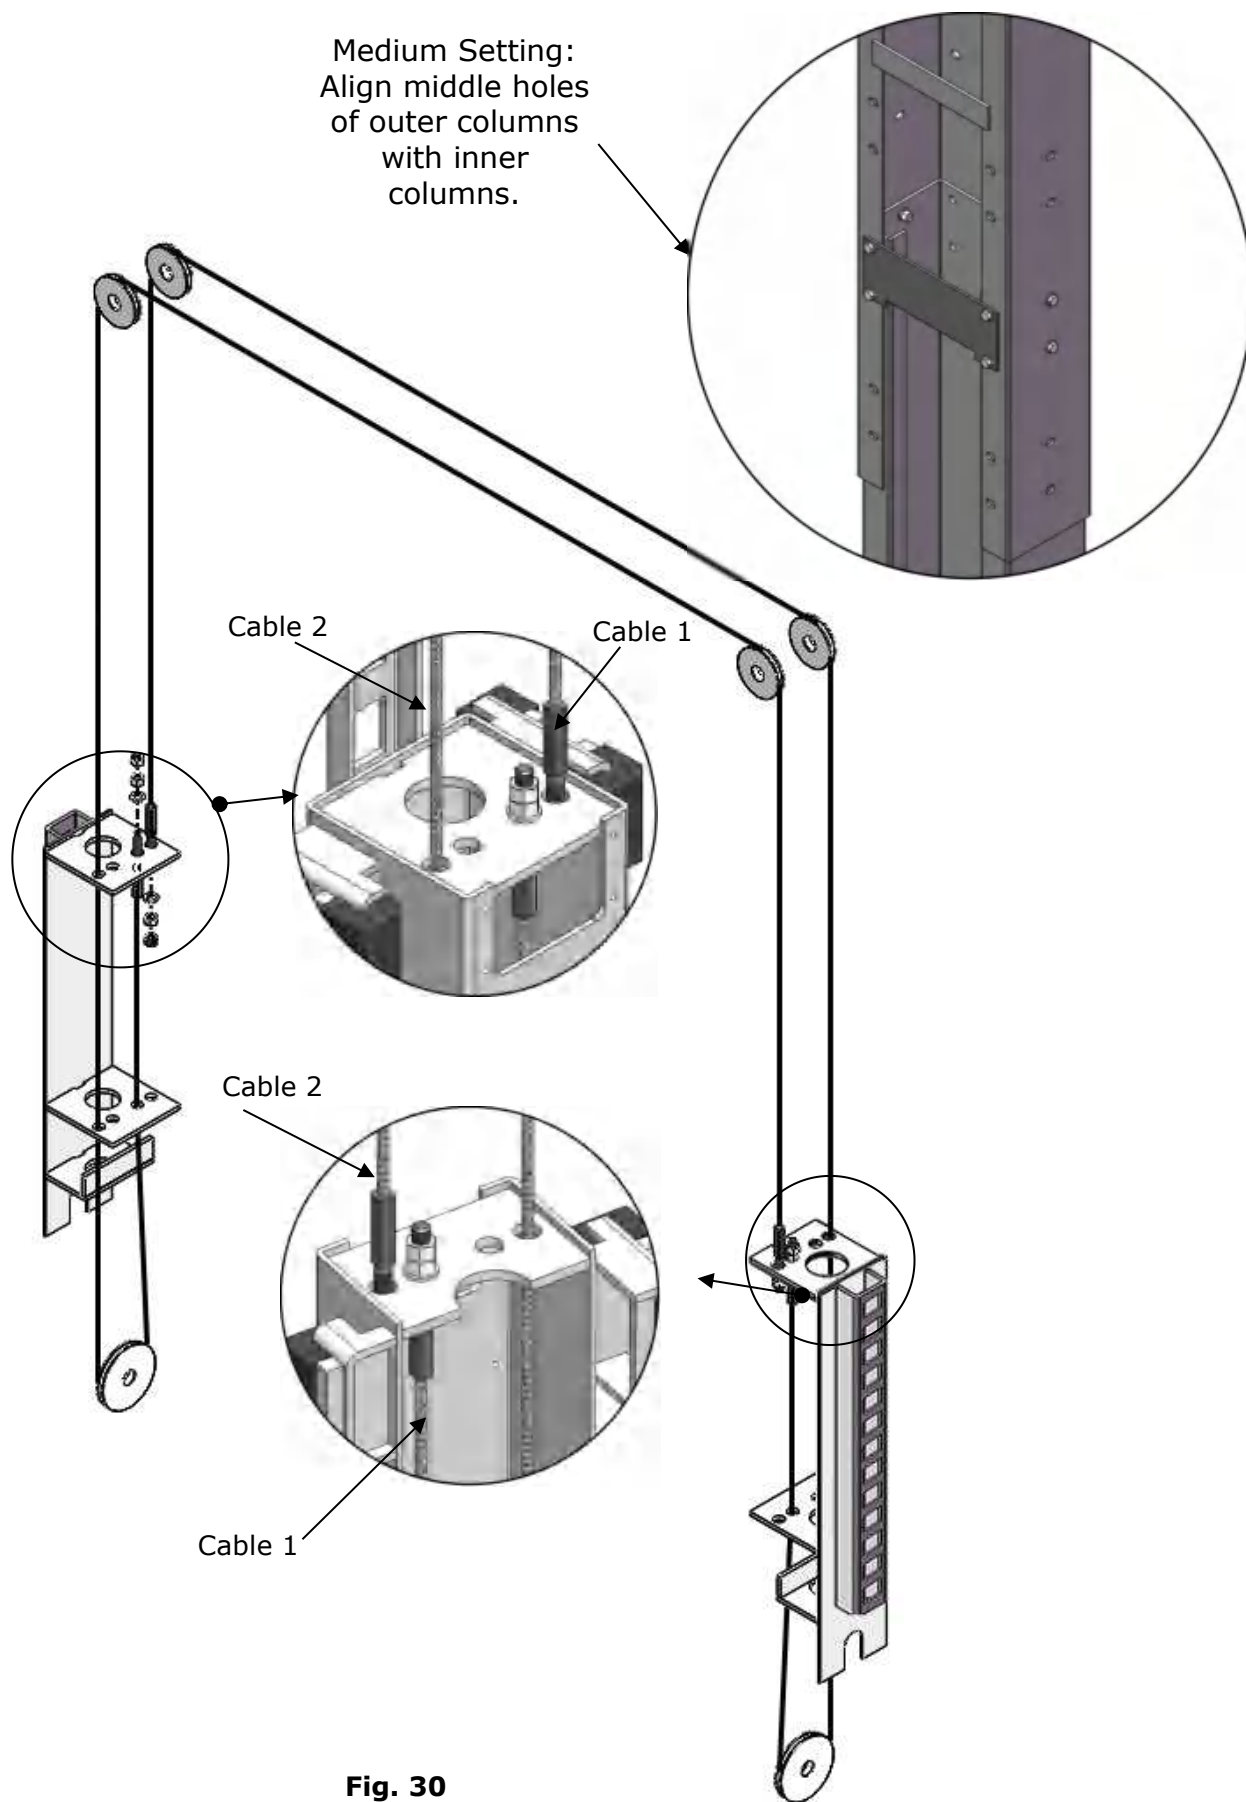

Fig. 30
2. Sync cable connection of medium setting installation. **(See Fig.30)**